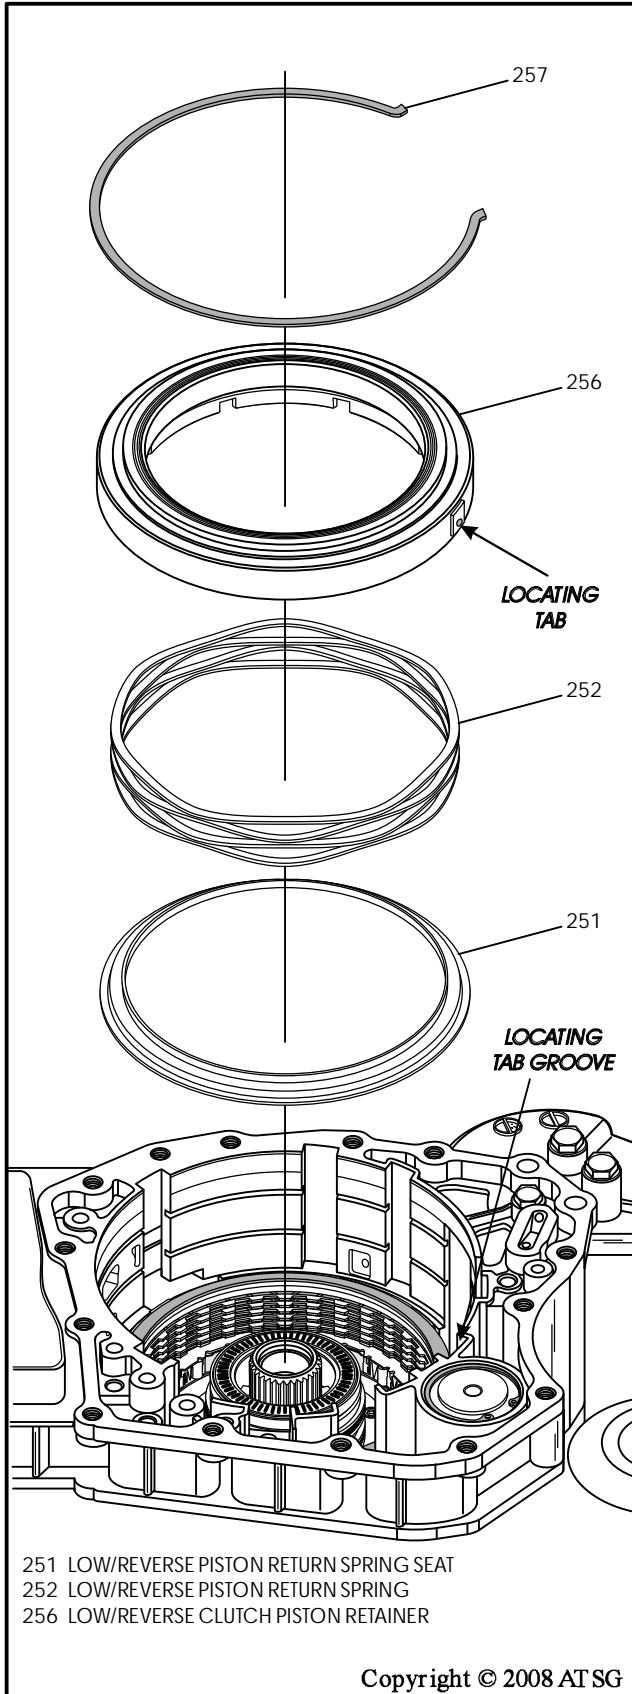

Figure 190
8. Install the low/reverse clutch return spring seat, as shown in Figure 190.
9. Install low/reverse clutch piston return spring, as shown in Figure 190.
10. Install the pre-assembled low/reverse clutch retainer and piston assembly, as shown in Figure 190.
**Note:** Tab on retainer must align with the groove shown in case in Figure 190.
12. Install the low/reverse clutch retainer snap ring, as shown in Figure 190.